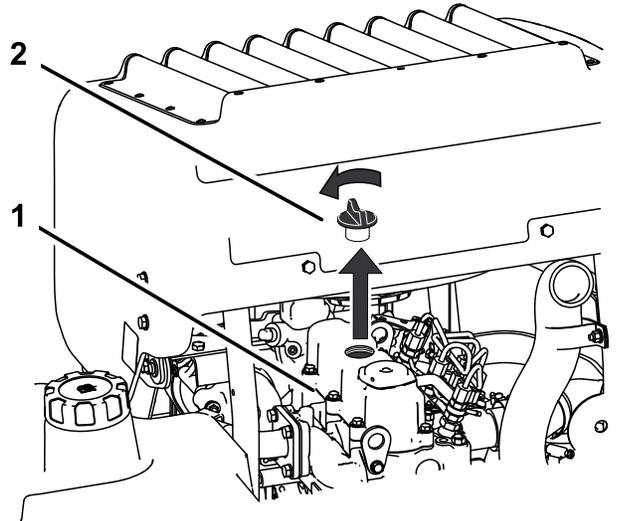

Figure 68
6. Remove the oil filler cap from the top of the engine (Figure 68).
2. Remove the oil-fill cap and dipstick (Figure 68).